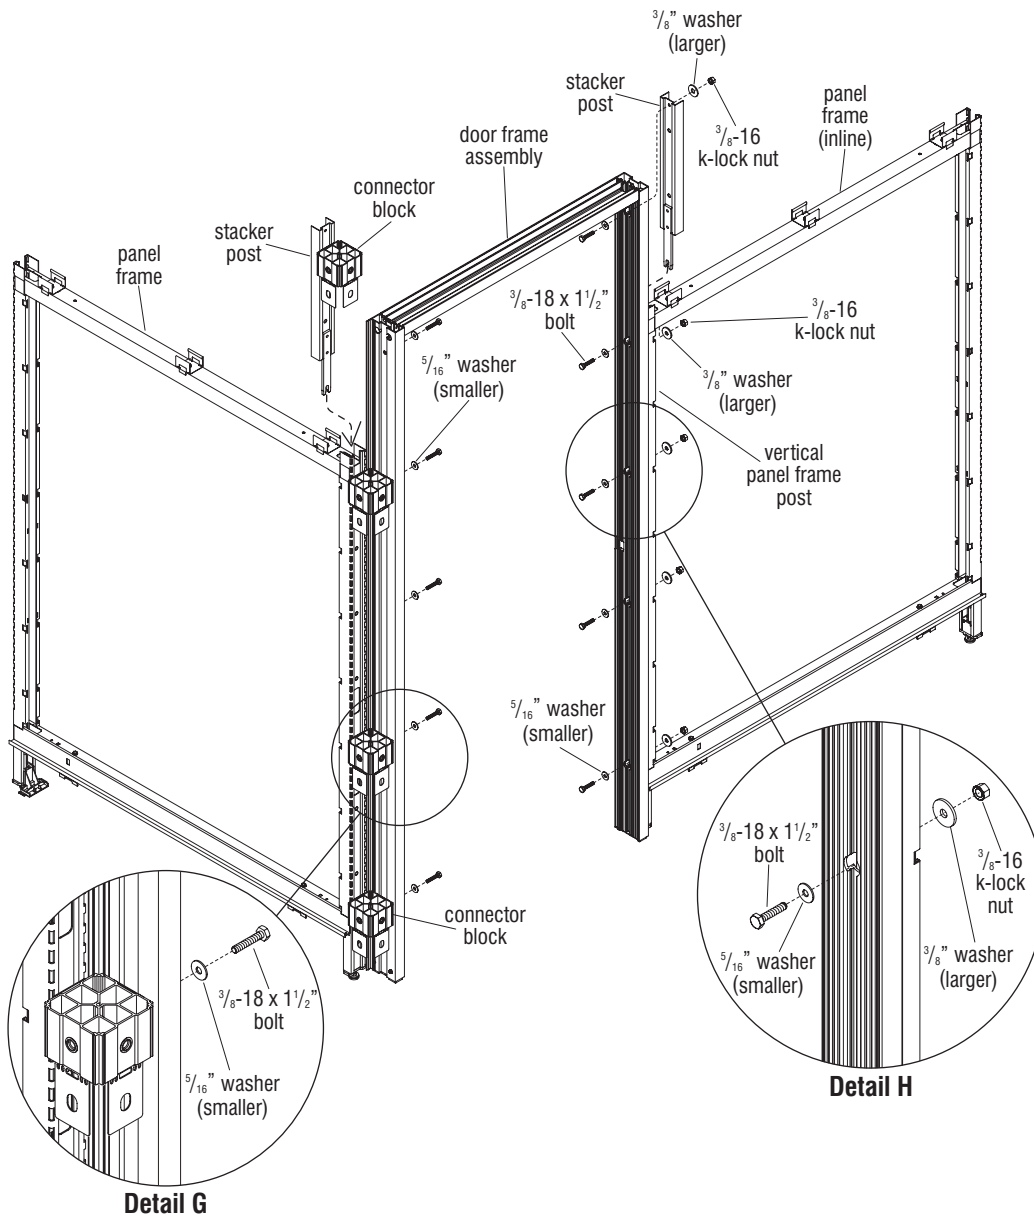

Figure 3
7. Begin assembly of the door frame to panel frame assemblies by first placing a $\frac{5}{16}$ " (smaller) washer onto each $\frac{3}{8}$ -18 x $1\frac{1}{2}$ " bolt as illustrated. All bolts install from inside the door frame, and the smaller washers fit through the inside access hole (Figure 3, Details G & H).
8. Next, at the connector block side of the door frame, insert the bolts with washers through the vertical frame and into the connector blocks and tighten. At the door frame side which attaches to a panel frame, insert bolts with small washers through the inside of the door frame and through the vertical panel frame post, then place a $\frac{3}{8}$ " (larger) washer onto the exposed bolt and secure using a $\frac{3}{8}$ -16 k-lock nut as illustrated (Figure 3, Details G & H).
9. Re-insert stacker posts back into slot at end of panel frames and ensure that the top of both stacker posts is fastened to top of door frame with $\frac{3}{8}$ -18 x $1\frac{1}{2}$ " bolts and $\frac{5}{16}$ " (smaller) washers (Figure 3).